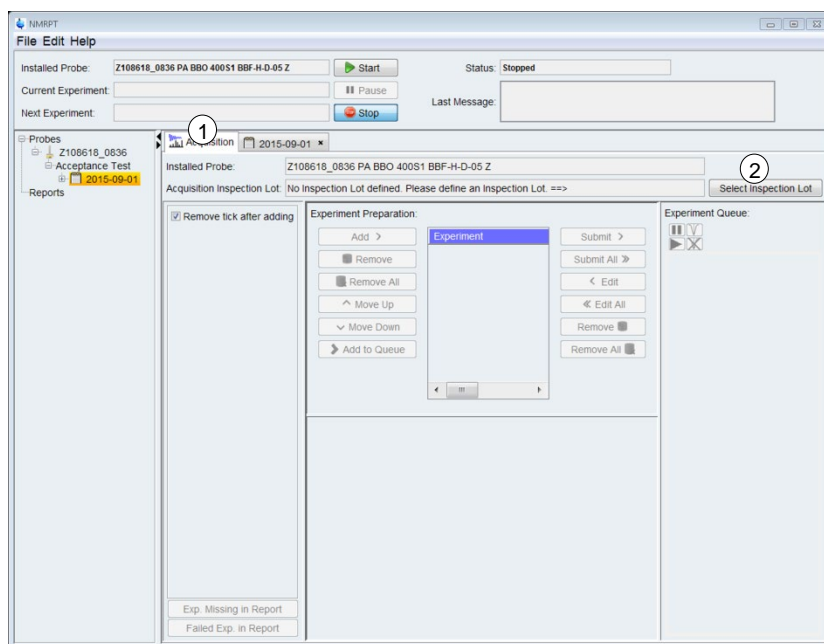

Figure 3-10: Select Inspection Lot on Acquisition tab
- Click the  **Acquisition** tab (Figure 3-10 (1)) in *NMRPT Workspace* to switch to the **Acquisition** tab.
- On the **Acquisition** tab (Figure 3-10) click **Select Inspection Lot** (2).